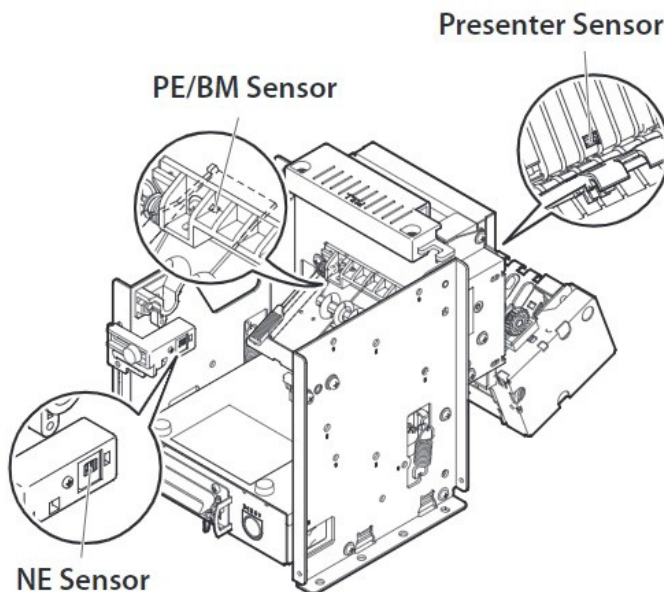

Figure 71. Printer Roller Cleaning
- Locate the Presenter, PE/BM and NE sensors as per Figure 71